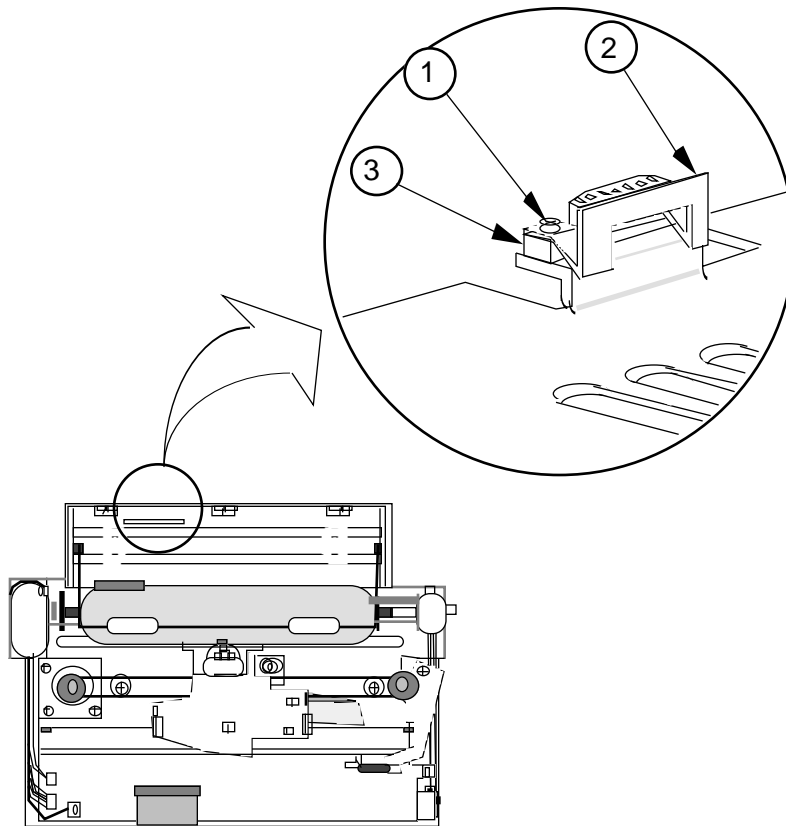

FIGURE 51
6. When both sides have been released from the indents on the metal frame, pull the tractor assembly straight out the rear of the mechanical assembly (Figure 51).
1. Hold the plastic end pieces on each end of the tractor assembly and slide the tractor assembly into the frame slot until the black tabs snap into the indents on the frame (Figure 51).